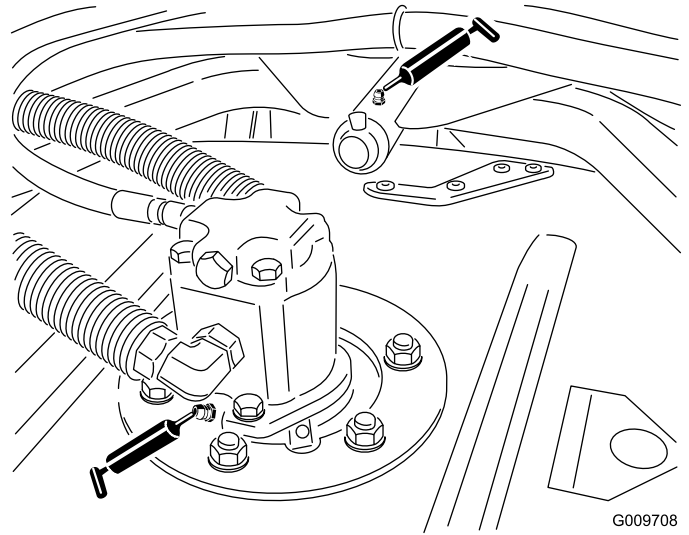

Figure 31
- Cutting-unit spindle-shaft bearings (2 per cutting unit) (Figure 31)
- Cutting-unit carrier-arm bushings (1 per cutting unit) (Figure 31)